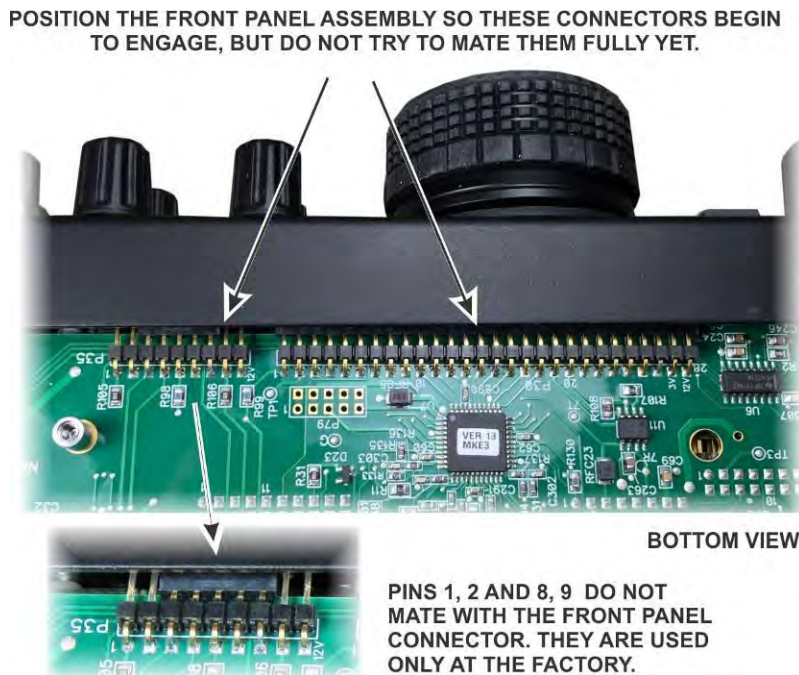

Figure 20. Mounting Front Panel Assembly - Mating P30 and P35.
□ Turn the chassis upside down and position the front panel so the pins of P30 and P35 on the bottom of the RF board just begin to engage the connectors on the lower edge of the front panel assembly as shown in Figure 20). Do not fully mate them yet.
⚠ Figure 20 shows a K3S. P35 on K3 transceivers have only 5 pins, all of which mate with the corresponding connector on the front panel.